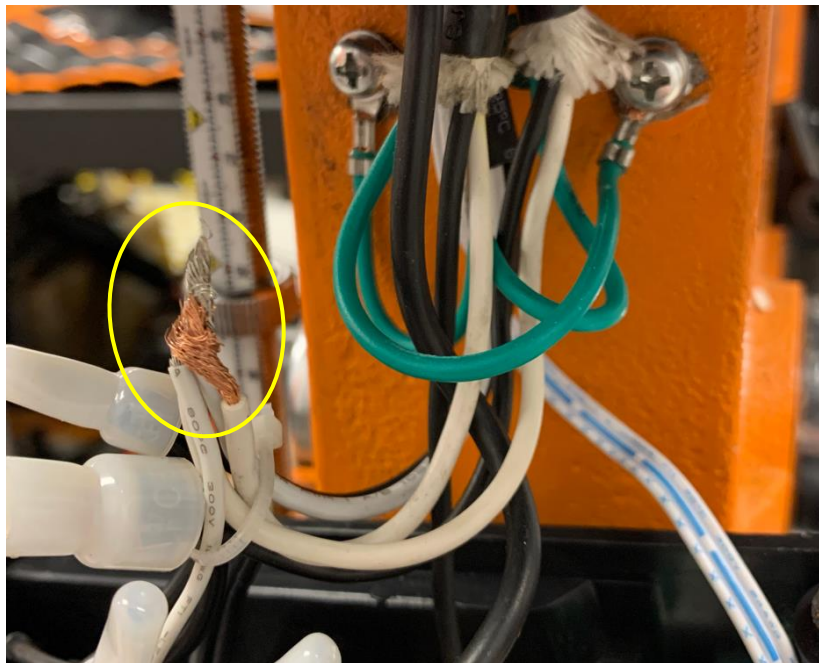

Figure 12. Twisting the Wire Connection
5. Re-wire the white motor wire with the other white wires from which the plastic cap was removed. As shown in Figure 12, securely re-twist these white wires together. It is important that all the wires have the exposed metal strands touching each other so that the connection is strong. Place the plastic cap back over the twisted wires and then re-crimp the cap with needle-nose pliers. Gently try to pull the cap off to make sure it is securely crimped. If it falls off, tightly re-twist the wires, push the cap fully onto the wires, and tightly crimp the cap.